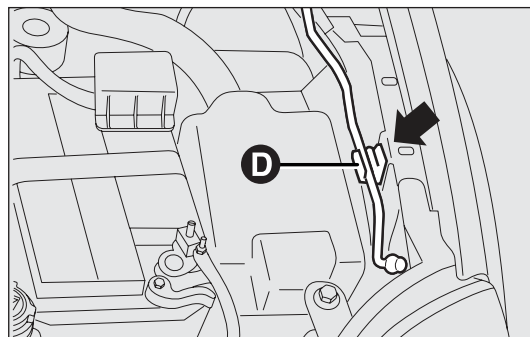
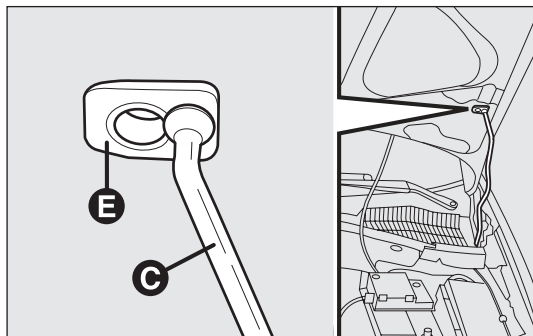

fig. 102
fig. 103
- ☐ lift the bonnet and, at the same time, release the bonnet support rod from its locking device D-fig. 102; then insert the end of the bonnet support rod C-fig. 103 into the hole E.
- ☐ hold the bonnet up with one hand and with the other remove the rod C-fig. 103 from the hole E and fit it back into its catch D-fig. 102;